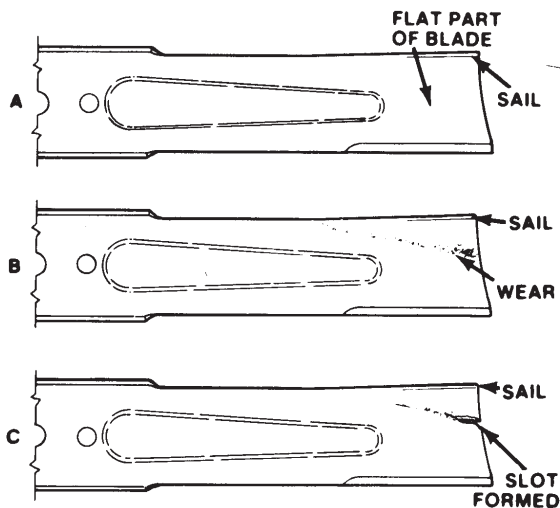

Figure 27
2. Examine the cutting ends of the blade carefully, especially where the flat and curved parts of the blade meet (Fig. 27-A). Since sand and abrasive material can wear away the metal that connects the flat and curved parts of the blade, check the blade before using the machine. If wear is noticed (Fig. 27-B), replace the blade; refer to Removing the Cutter Blade, page 20.
If the blade is allowed to wear, a slot will form between the sail and flat part of the blade (Fig. 27-C). Eventually a piece of the blade may break off and be thrown from under the housing, possibly resulting in serious injury to you or bystanders.